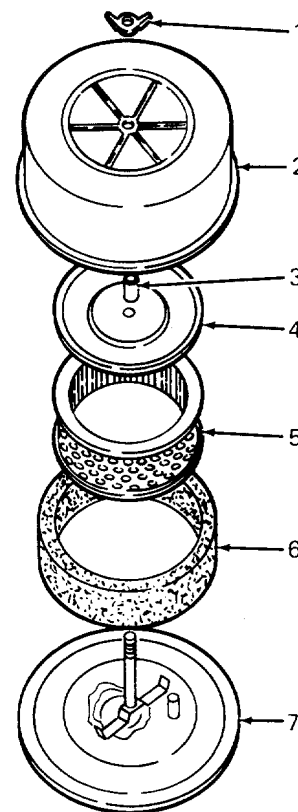

Figure 33. Air Cleaner Assembly
1. Remove wing nut and cover. (See Figure 33.)
liquid or attempt to blow dirt off with air hose as this will puncture filter element. Carefully handle new element — do not use if gasket surfaces are bent or twisted. Check the following when installing a new element: (See Figure 33.)